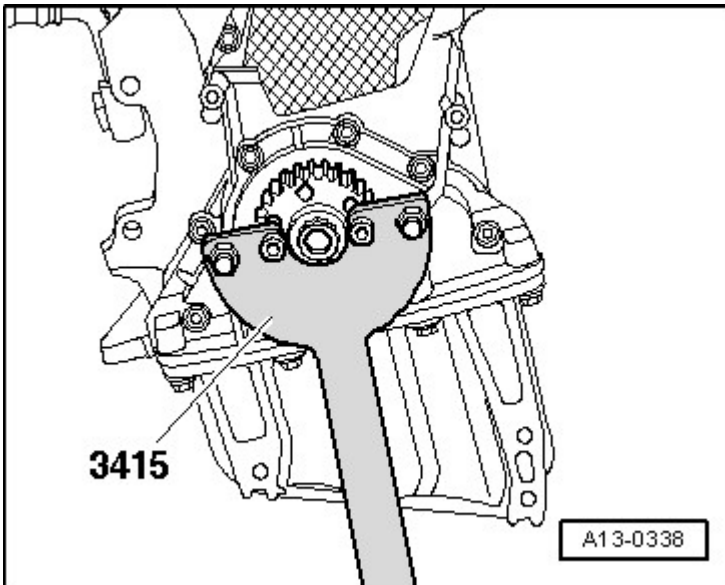

Fig. 4: Crankshaft Toothed Belt Sprocket, Removing And Installing
- Fastening counter support 3415, refer to **Fig. 4**